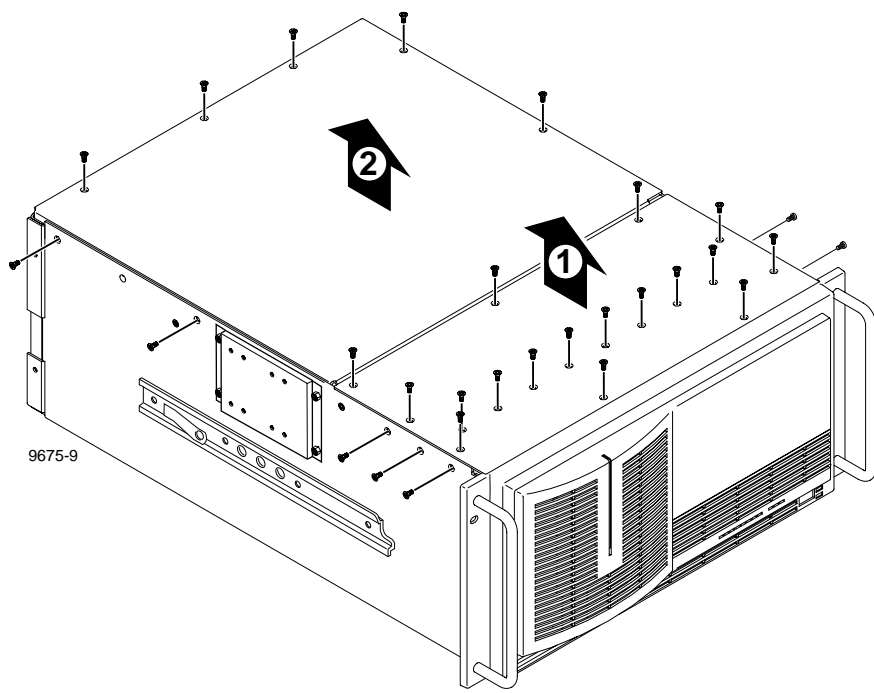

Figure 1. Removing the Top Covers
To remove the chassis covers, refer to Figure 1 and:
NOTE: *Not all the screws shown in Figure 1 may be present on a PDR100.*
3. Use the Torx tool with the T10 to remove the top screws from the front chassis cover (❶ in Figure 1) and use the T15 tip to remove the side screws. The front cover must be removed first because it overlaps the rear cover.
4. Use the Torx tool with the T10 tip to remove the rear chassis cover (❷ in Figure 1) which covers the circuit boards.